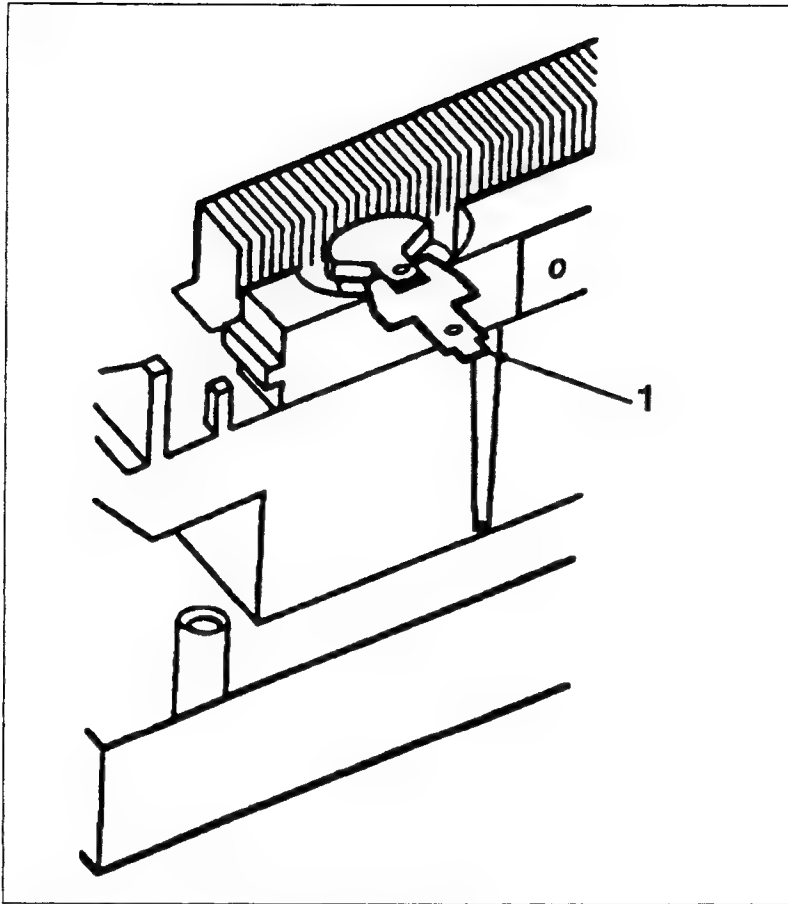

Figure 5-1. Crank Arm Phasing Adjusting Tool
- b. Install the phasing tool (P/N 02563-00069) onto the counter-weight (see Figure 5-1).